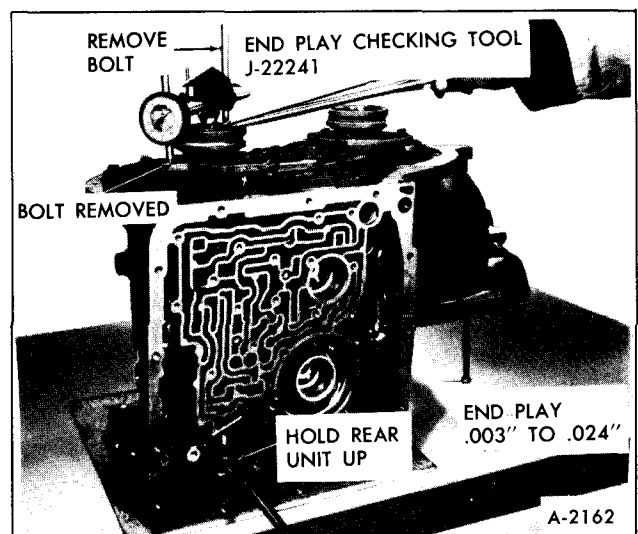

Figure 45—Checking Front Unit End Play
1. Install Front Unit End Play Checking Tool, J-22241, into driven sprocket housing so that the urethane on the tool can engage the splines in the forward clutch housing. Let the tool bottom on the mainshaft and then withdraw it approximately 1/8 inch and tighten nut on tool, Figure 45.
3. Mount Dial Indicator, such as J-8001, on slide hammer bolt and index indicator to register with the Front Unit End Play Checking Tool, J-22241, Figure 45 and push tool down to remove slack.